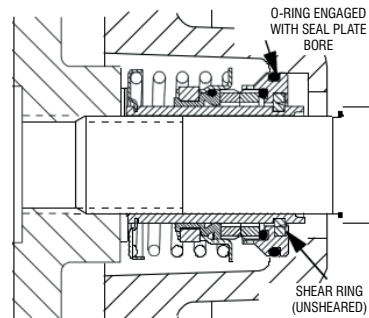

Figure E-5. Seal Partially Installed
Clean and inspect the impeller as described in Impeller Installation and Adjustment. Install the full set of impeller shims (48) provided with the seal, and screw the impeller onto the shaft until it is seated against the seal (see Figure E-5).